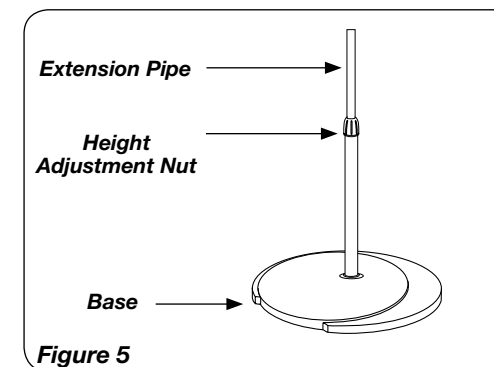

Figure 5
1. With a twisting motion, insert the end of the large pipe into hole in **Base**. (**Figure 5**) Turning pipe while pushing will assure pipe is fully seated in **Base**.